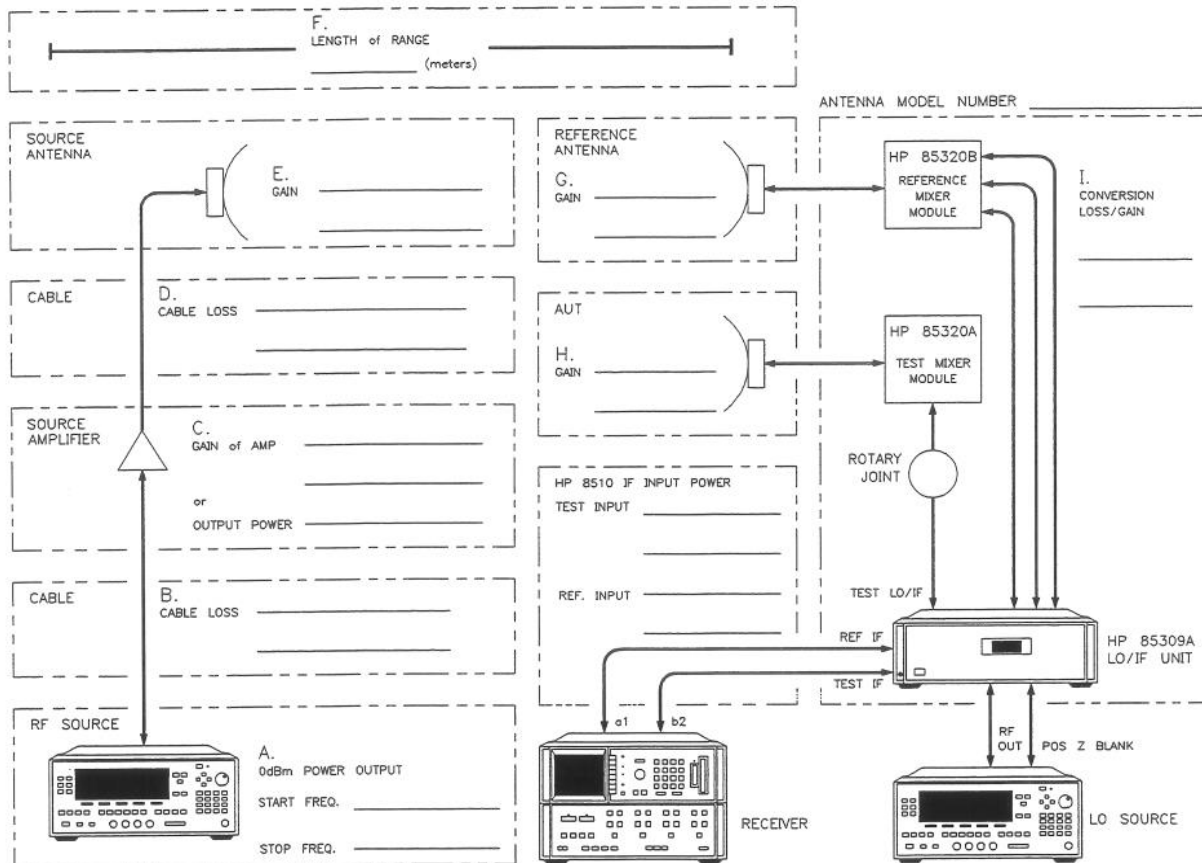

Figure A-1. Known System Gain and Loss Values (with HP 85310A Frequency
This method of improving the dynamic range provides the highest measurement dynamic range. Photocopy the worksheet in Figure A-1 for general use.
Figure A-1 shows attenuation and gain values required for later calculations. Read the following before using Figure A-1.
Each box in Figure A-1 has two entry blanks. For example, look at Box E, Source Antenna Gain. When making “wide” frequency range measurements, enter the antenna’s gain at the start frequency on one line, and its gain at the stop frequency on the other line. Do this for each box in Figure A-1.
- **Narrow:** There is no noticeable change in system performance between start and stop frequencies. Use only one entry blank in each box of Figure A-1.
- CW: Measurements occur only at single CW frequencies. Use only one entry blank in each box of Figure A-1.
Photocopy the dynamic range worksheet (illustration and calculations) from Figure A-1 and fill it out. Item A is located in the lower-left hand corner of Figure A-1. The other items (B through I) proceed clockwise from item A. Each entry box is explained after Figure A-1.